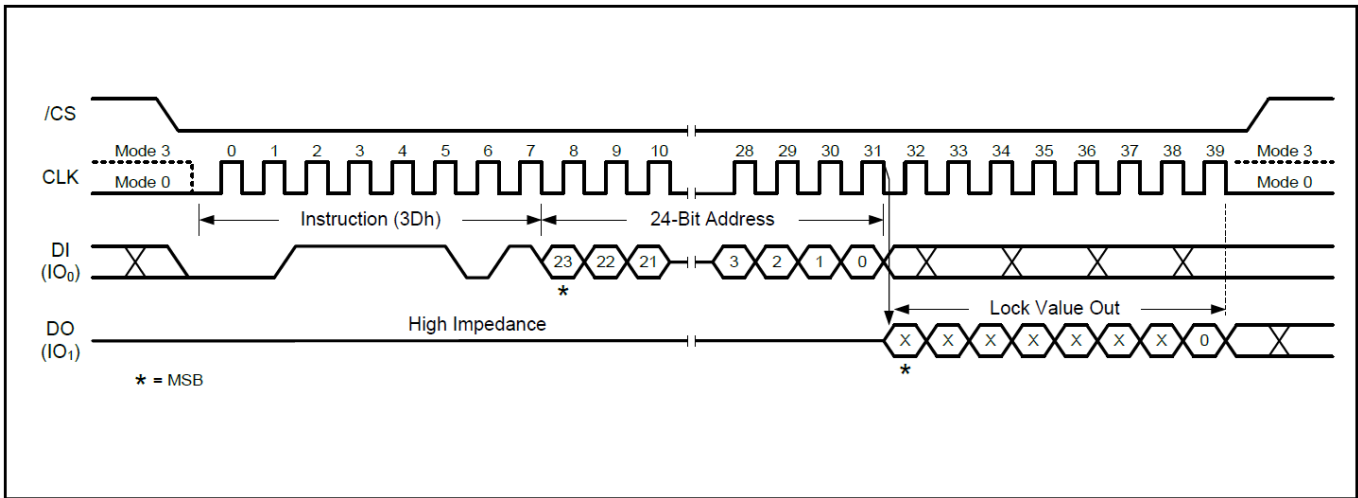

Figure 38. Read Block Lock Instruction for SPI Mode
To read out the lock bit value of a specific block or sector as illustrated in Figure 38, a Read Block/Sector Lock command must be issued by driving /CS low, shifting the instruction code “3Dh” into the Data Input (DI) pin on the rising edge of CLK, followed by a 24-bit address. The Block/Sector Lock bit value will be shifted out on the DO pin at the falling edge of CLK with most significant bit (MSB) first as shown in Figure 55. If the least significant bit (LSB) is 1, the corresponding block/sector is locked; if LSB=0, the corresponding block/sector is unlocked, Erase/Program operation can be performed.